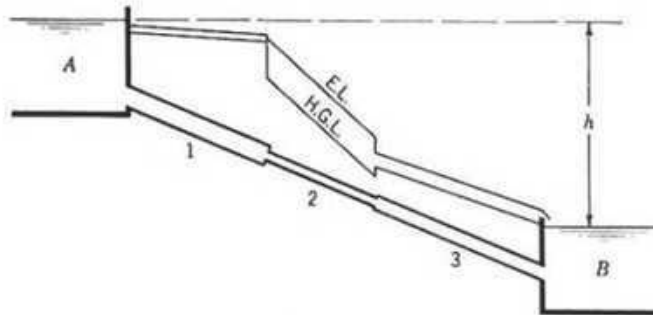
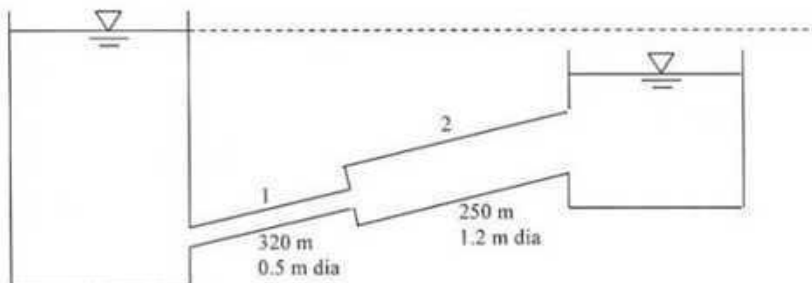
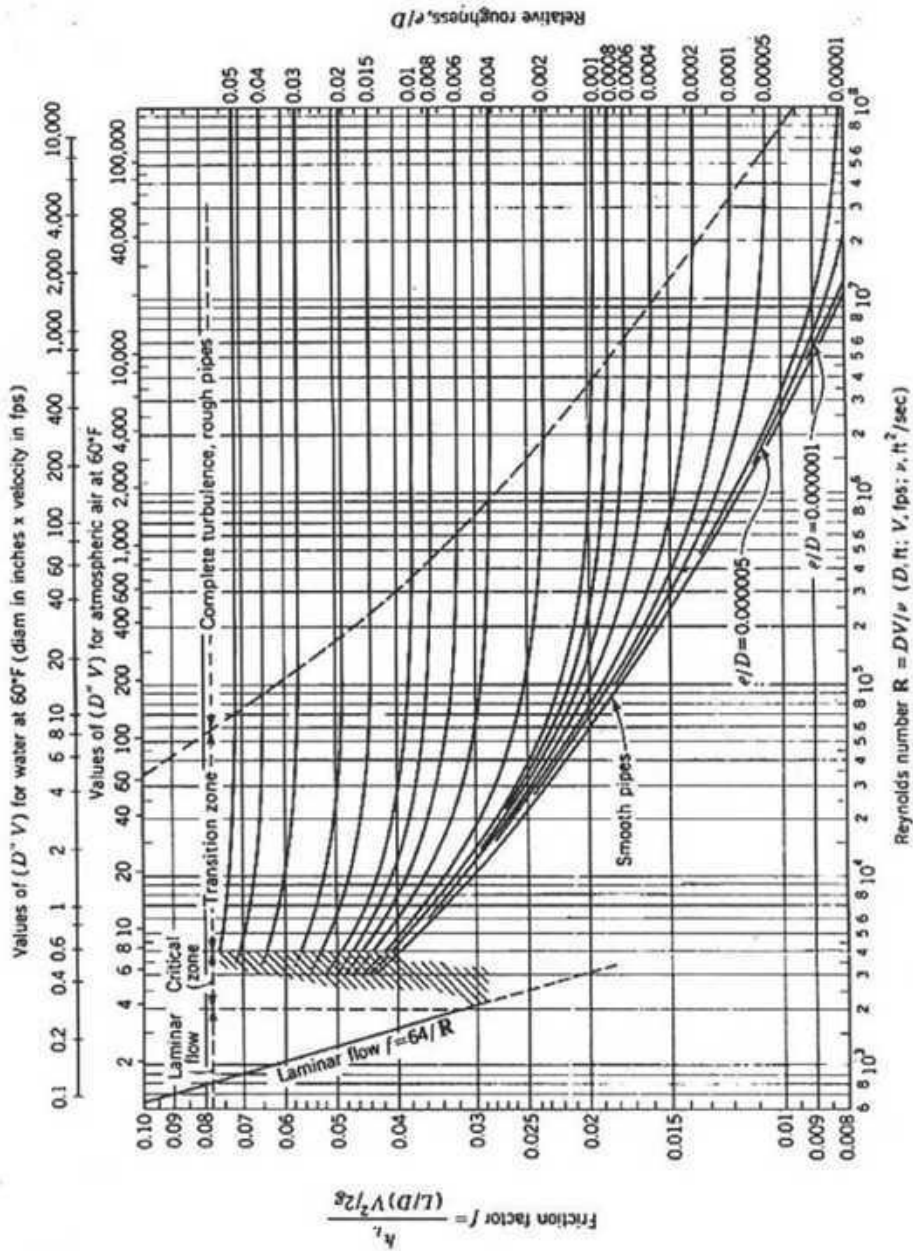

Figure 7
Figure 8
Figure 10: friction factor for pipes (Moody Diagram)
- (b) Suppose in Figure 7, the pipes 1, 2 and 3 are 350 m of 30 cm diameter, 200 m of 18 cm diameter and 280 m of 26 cm diameter, respectively of new cast iron ( $e = 0.25$  mm) and are conveying  $15^\circ$  C water. If  $h = 15$  m, find the rate of flow from A to B. Use Moody diagram for friction factor (See Figure 10). (13)
- 7.(a) A pipeline 50 m long is connected to a water tank at one end and discharges freely into the atmosphere at the other end. For the first 20 m of its length from the tank, the pipe is 20 cm in diameter and its diameter suddenly enlarges to 35 cm. The height of water level in the tank is 15 m above the center of the pipe. Considering all losses of head that occurs, determine the rate of flow. Assume  $f = 0.025$  for both the pipes. (7)
- (b) Two reservoirs with a difference in water surface elevation of 10 m are connected by two pipes in series as shown in Figure 8. The equivalent roughness heights of the two pipes are 2.5 mm and 0.5 mm respectively. Considering all losses of head that occur, find discharge by equivalent velocity head method. Given  $\nu = 3 \times 10^{-6} \text{ m}^2/\text{s}$ . Use Moody diagram for friction factor (See Figure 10). (12)